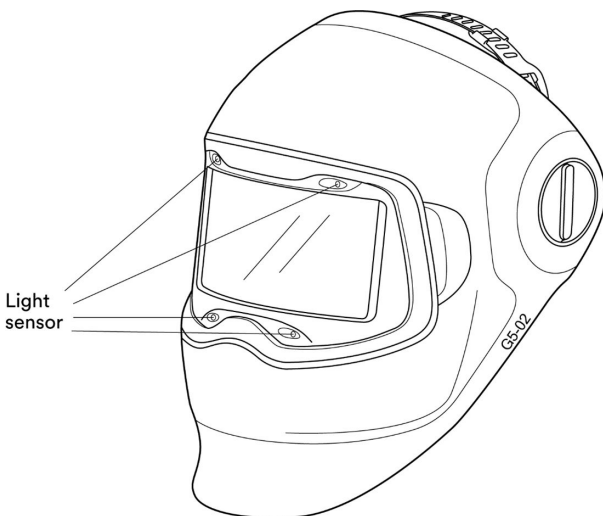

Fig. 5
1. ON/OFF: The welding filter is motion sensitive and will automatically turn ON when moved. During its initial power-up, all of the adjustment lights will cycle quickly, one at a time. The welding filter automatically turns OFF after 1 hour of inactivity. The welding filter has four photo sensors that react independently and cause the filter to darken when a welding arc is struck (Fig. 5). The welding filter may not turn dark if the sensors are blocked or the welding arc is totally shielded. Flashing light sources (e.g. safety strobe lights) can trigger the welding filter making it darken when no welding is occurring. This interference can occur from long distances and/or from reflected light. Welding areas must be shielded from such interference.